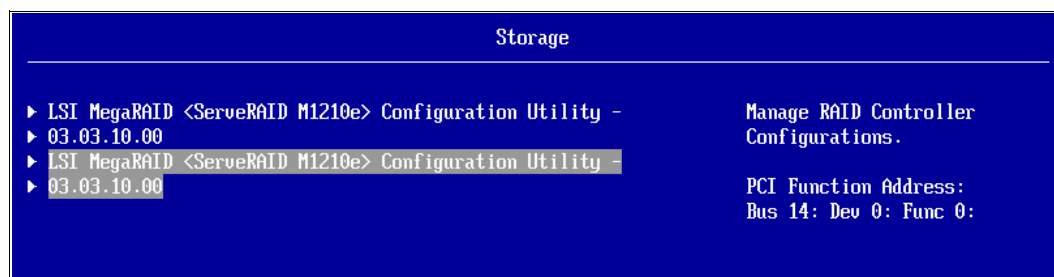

Figure 5-29 Dual-node complex with Drive Sharing disabled
1. A dual-node complex or partition with a M1210e in both nodes will show both controllers separately within UEFI, as shown in Figure 5-29, if Drive Sharing is disabled. Browsing both controllers will show them as separate controllers with the physical drives that they are attached to.